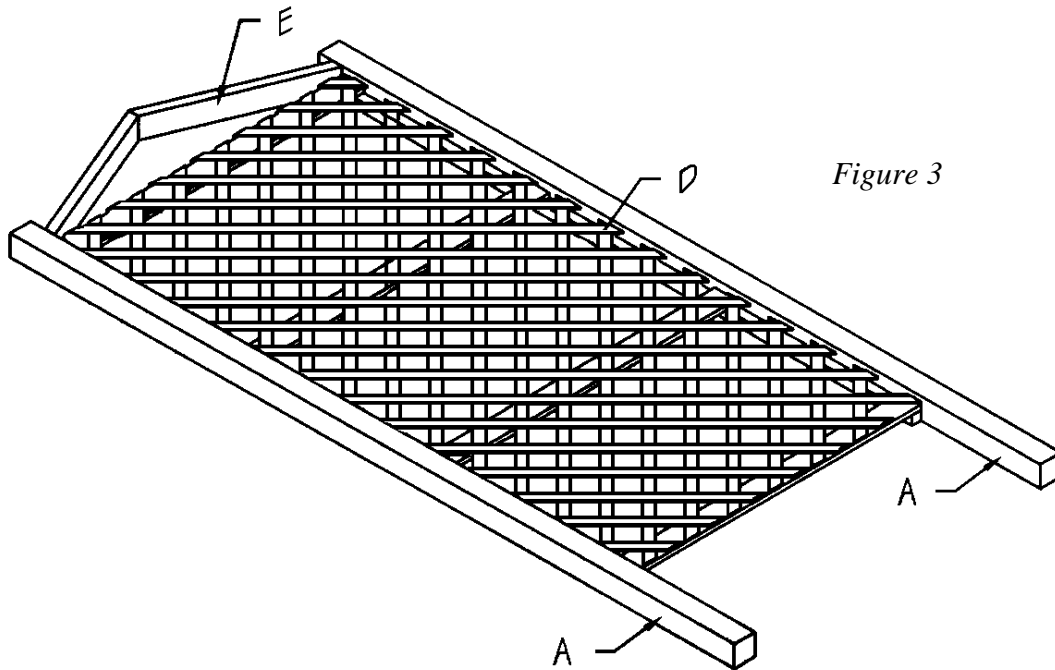

Figure 3
- Place the 4' x 8' Trellis (D) on top of the four Connectors (C), as shown in *Figure 3*. Nail through the Trellis (D) into the three connectors, using 1-inch wire brads spaced every 4 inches.
- Cut two Tops (E) from 2 x 4 pine, each measuring 26 inches.
- Place the two Tops (E) on a flat work surface with the mitered ends together. Apply glue to the meeting surfaces and screw through each of the Tops (E) into the opposing Top (E) into the opposing Top (E), using 2-1/2" finishing nails on each side.
- Using *Figure 3* as a guide, position the top assembly on top of the Trellis (D). Apply glue to the meeting surfaces, and screw through the ends of the Tops into the sides (A), using two 2-1/2" wood screws on each joint.
- Cut one Ledge (F) from 4 x 4 pine, measuring 55 inches.
- The Ledge (F) will be attached to the Sides (A) with two 5-inch lag screws. Pre-drill holes on each end of the Ledge (F) to accommodate the screws. Then screw through the Ledge (F) into the sides (A).